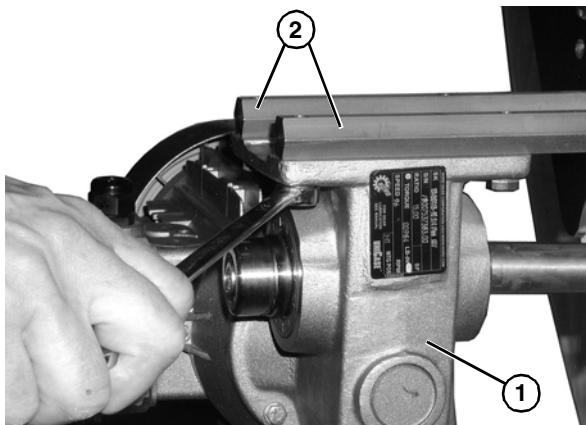

Figure 44
4. Attach the gearmotor assembly (Figure 44, item 1) to the gearhead mounting posts (Figure 44, item 2).